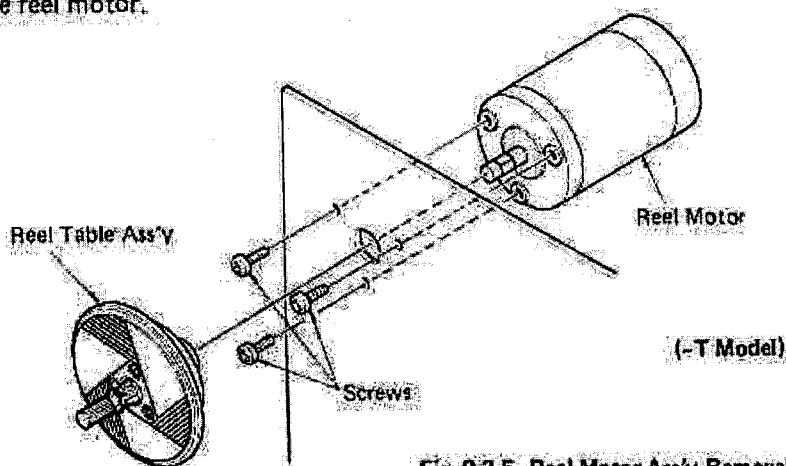

Fig. 9-3-5. Reel Motor Ass'y Removal
1. After removing the front panel as described in 9-3-1(C), remove the reel table assembly and as shown in Fig. 9-3-5, remove the three screws holding the reel motor.